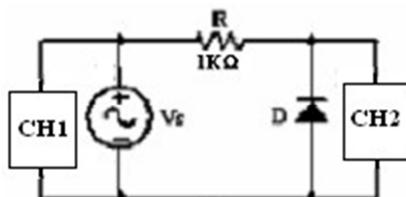

Figure.7
- 1- Construct the circuit shown in Figure 7 by reversing the diode of the previous circuit.